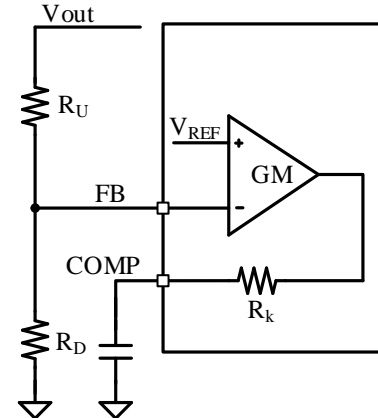

Figure 6 Output voltage feedback circuit
SY5072 regulates the boost output voltage using a trans-conductance internal error amplifier (EA). The inverting terminal of the EA is pinned out to FB, the non-inverting terminal is connected to an internal 1.25V voltage reference, and the EA output is pinned out to COMP (Fig.6).